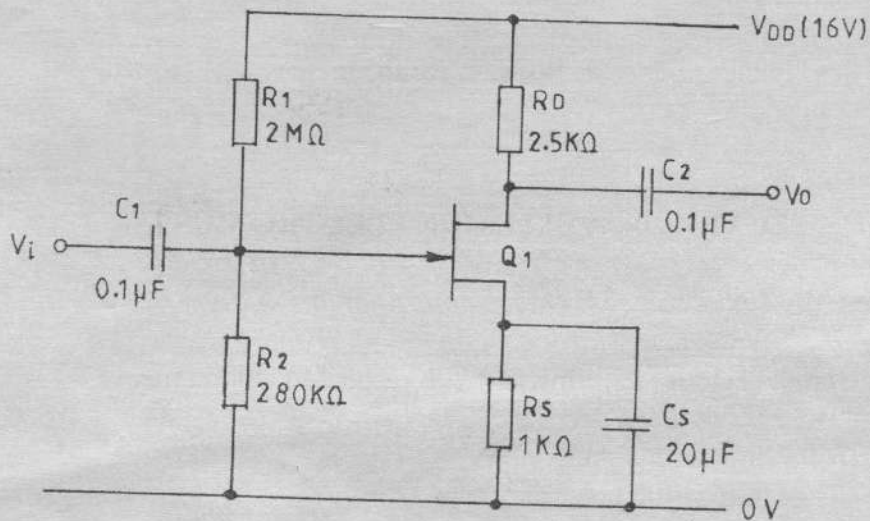

Fig. 4
- (b) Figure 4 shows a circuit diagram of a JFET amplifier while table 2 shows the values of drain current (I_D) with gate-source voltage (V_{GS}) for the JFET.